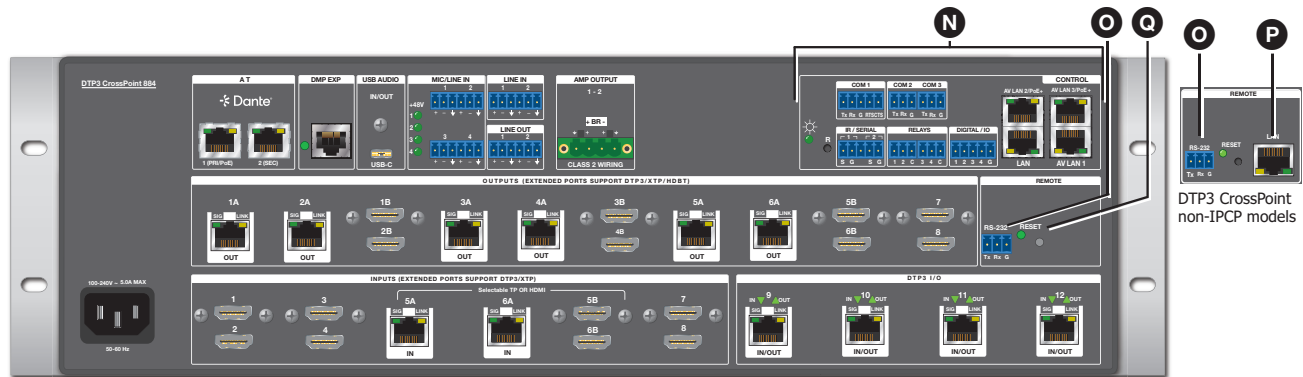

Figure 10. Control Connections
NOTE: Figure 10 shows features of all models. Actual models have either a LAN port (P) or a control processor (N), but not both.